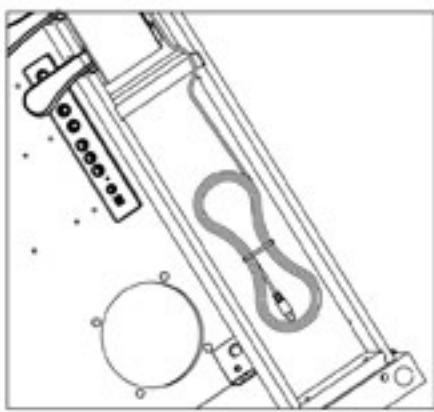

Fig. 3
- 2)** Remove the nylon protection and white foam on the wooden parts, free the pedals cable under the crossbar as shown in Fig. 3